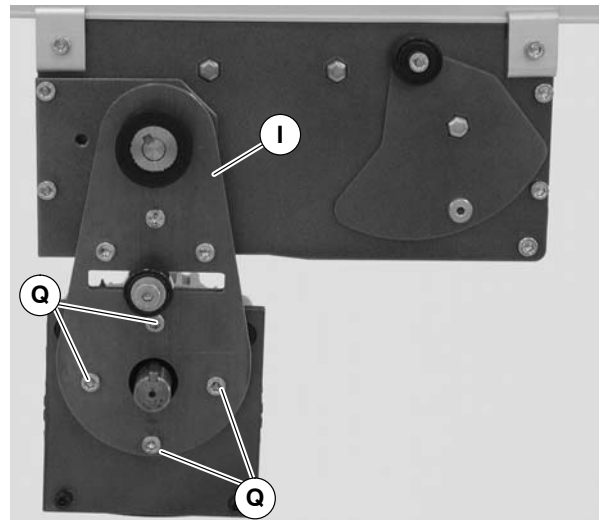
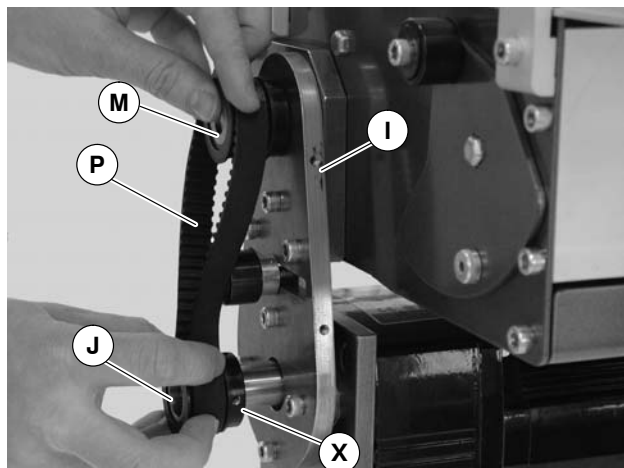

Figure 21
Figure 23
7. Remove four (4) gearmotor mounting screws (Q of Figure 21). Remove gearmotor with adapter plate.
9. Install new gearmotor to adapter plate (AJ) and mounting bracket (I of Figure 23). Tighten screws (Q of Figure 21) to 103 in-lb (12 Nm).
10. Wrap timing belt (P of Figure 23) around drive pulley (J) and driven pulley (M). Attach drive pulley (J) to drive shaft.